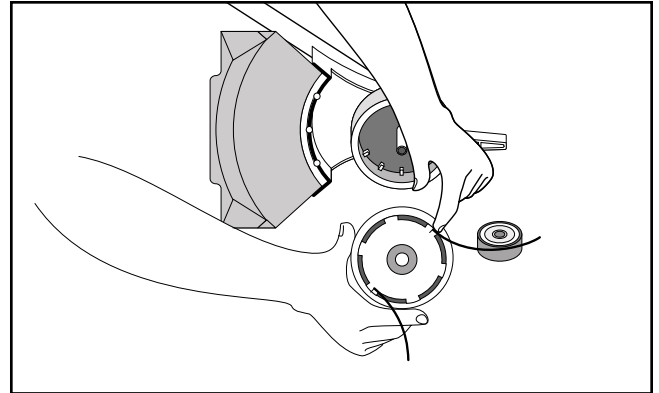

Fig. 32
3. Insert the ends of the line into the two holding slots (Fig. 32).